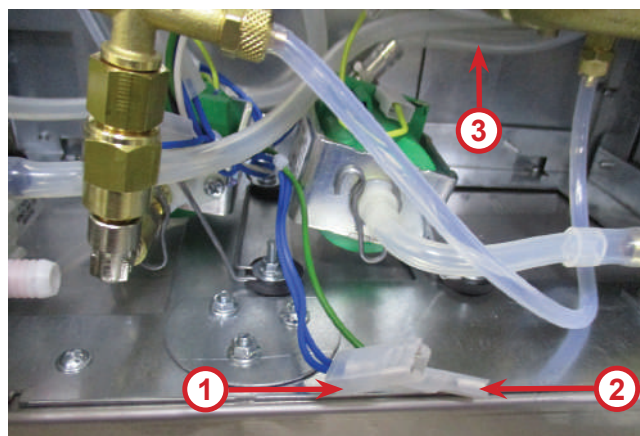

Fig 4.17b
- Connect the silicone tube and power connectors to the electric valve (see fig.4.17b);